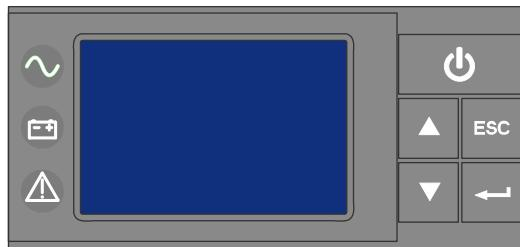

Figure 232 Front Panel of the 5P 1550i Battery Backup Unit
- ◆ If the front panel of the Battery Backup Unit is as shown in Figure 232, the Battery Backup Unit is **5P 1550i R**.